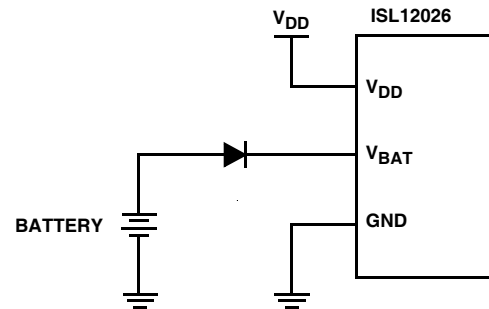

FIGURE 2. PROTECTION CIRCUIT WITH AN EXTERNAL DIODE)
protection in the event that the internal MOSFET and series resistors should fail. Figure 2 shows the actual circuit with the external protection diode. (Note that a high value series resistor would provide similar protection, but would limit normal operating range.)
- A) Intersil devices that require one diode in series (Figure 2 on page 1) with the V_{BAT} pin for UL requirements: ISL1208, ISL1209, ISL1218, ISL1219, ISL1220, ISL1221, ISL12020, ISL12020M, ISL12022, ISL12022M, ISL12024, ISL12025, ISL12026, ISL12027, ISL12028, ISL12029.